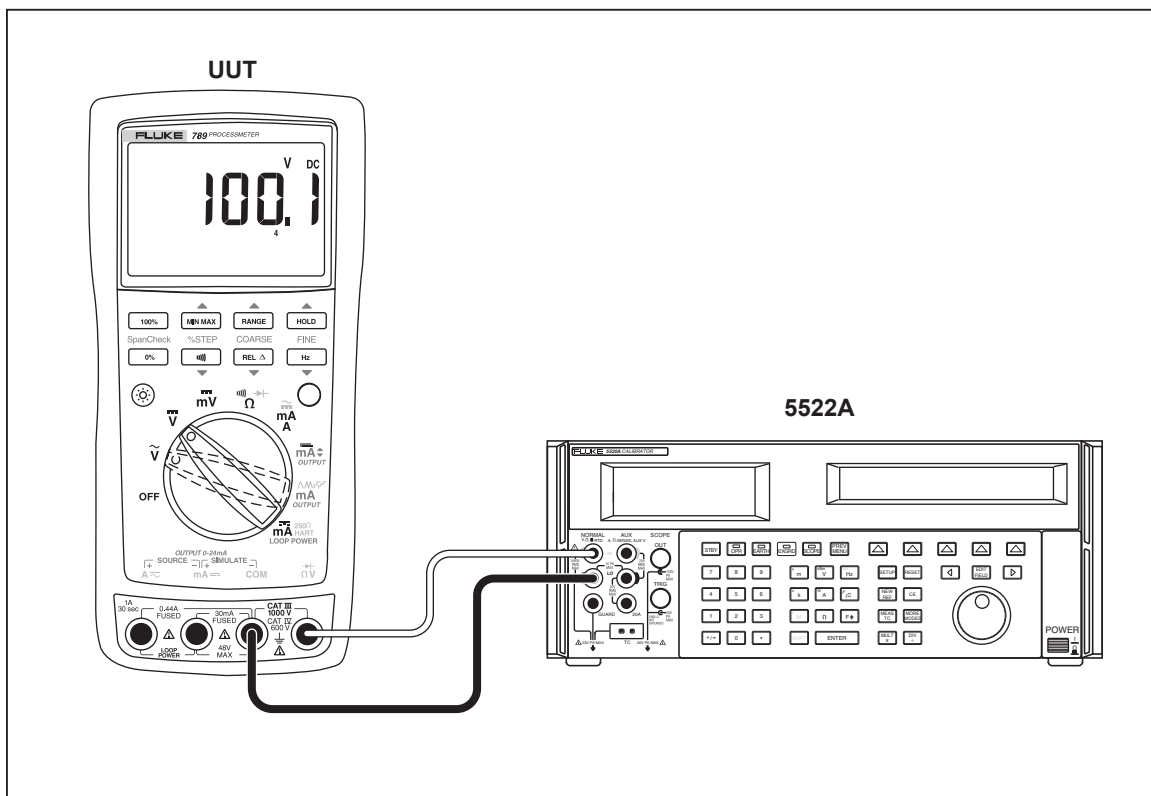

Figure 9. AC/DC Voltage Measurement Test Connections
3. Connect the calibrator to the **COM** and $\overline{\text{V}}$ terminals on the UUT as shown in Figure 9.
3. Connect the calibrator to the **COM** and ΩV terminals on the UUT as shown in Figure 9.